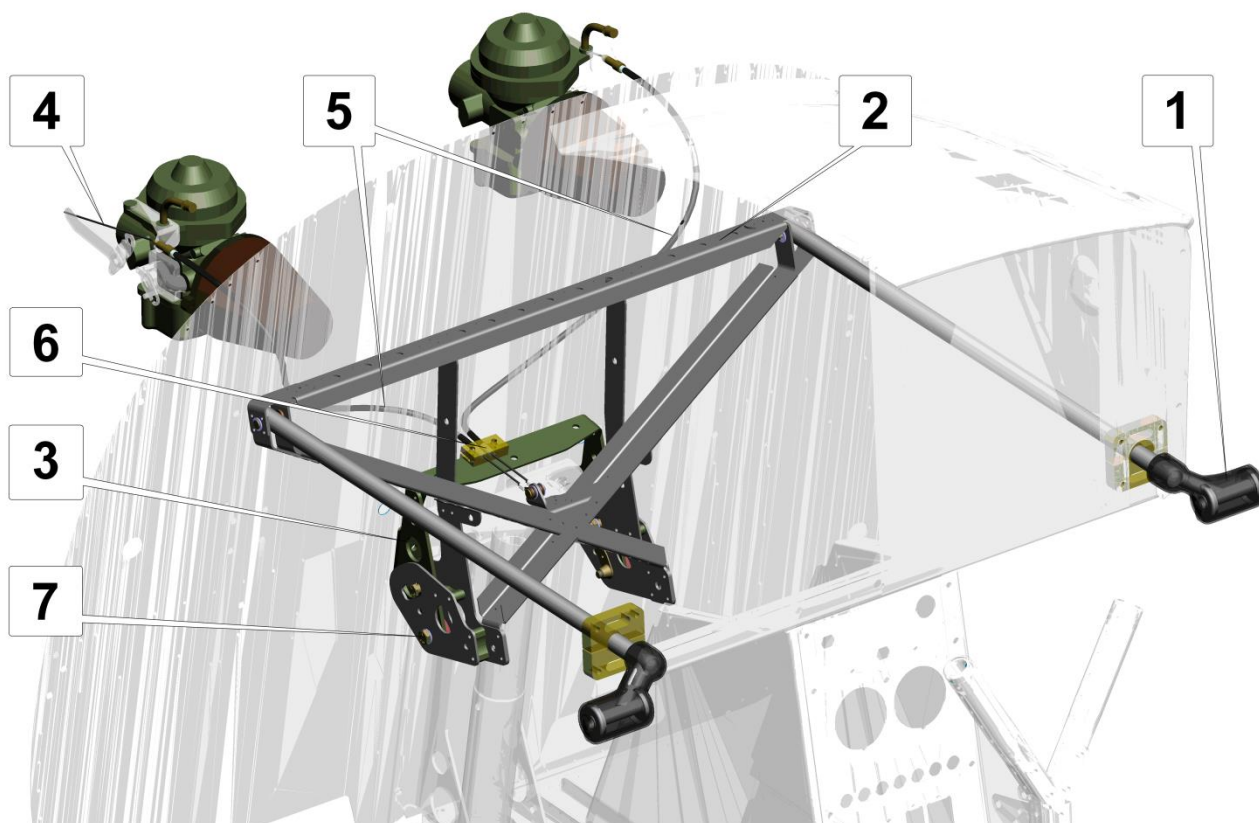

Fig. 9 Engine RPM controls
The engine RPM control (**Fig. 9**) is achieved using the right and left throttle levers (1) connected with the control column (2) based on the bracket (3) and throttle control cables (4) to the right and left carburetors. The cables are passed through the flexible sheaths – the right and the left (5) one. The throttle lever friction force can be adjusted on the ground by tightening the bolt (7).